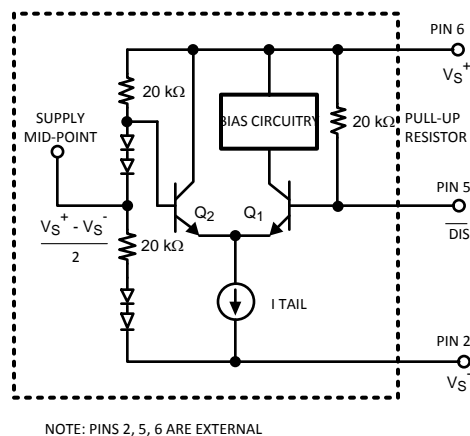

Figure 8. $\overline{\text{DIS}}$ Pin Simplified Schematic
The LMH6704 has a TTL logic compatible disable function. Apply a logic low ($< 0.8\text{V}$) to the DS pin and the LMH6704 is disabled. Apply a logic high ($> 2.0\text{V}$), or let the pin float and the LMH6704 is enabled. Voltage, not current, at the Disable pin (DS) determines the enable/disable state. Care must be exercised to prevent the disable pin voltage from going more than $.8\text{V}$ below the midpoint of the supply voltages (0V with split supplies, $V^+/2$ with single supply biasing). Doing so could cause transistor Q1 to Zener resulting in damage to the disable circuit (See Figure 8 or the simplified internal schematic diagram). The core amplifier is unaffected by this, but the disable operation could become permanently slower as a result.